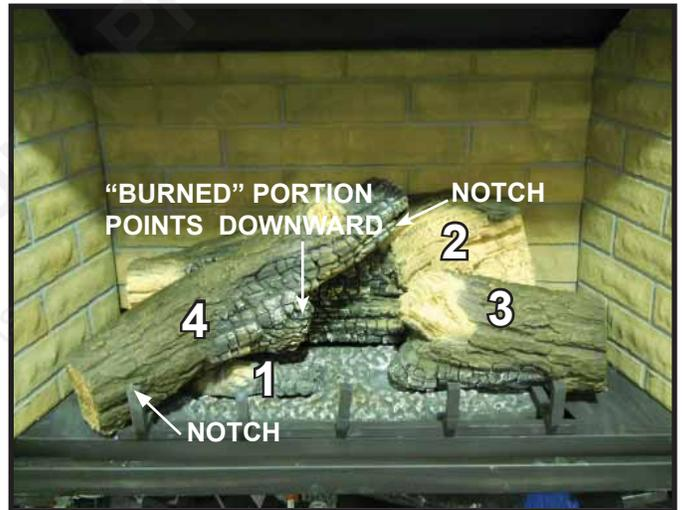

Figure 4.
**LOG #4 (SRV2120-704)** Place log #4 so that the right end sits in the notch or flat spot of log #2. The left end of the log will sit on the left grate tine and also contact the vertical portion of the grate tine as shown in Figure 4. The "burned" part of the log should be pointed downward.